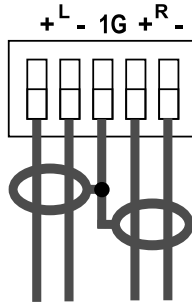

Figure 6: Connecting the Balanced Stereo Audio Input/Output
- A balanced input/output connection, see Figure 6